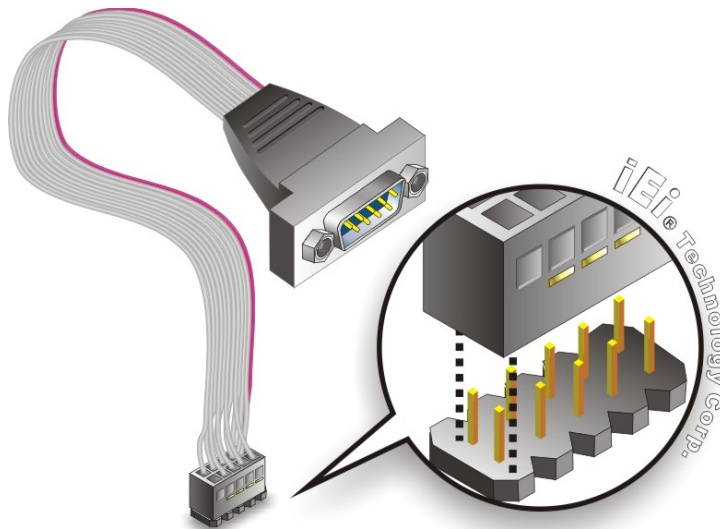

Figure 4-15: Single RS-232 Cable Installation
Step 2: Insert the cable connector. Insert the connector into the serial port header. See **Figure 4-15**. A key on the front of the cable connector ensures the connector can only be installed in one direction.